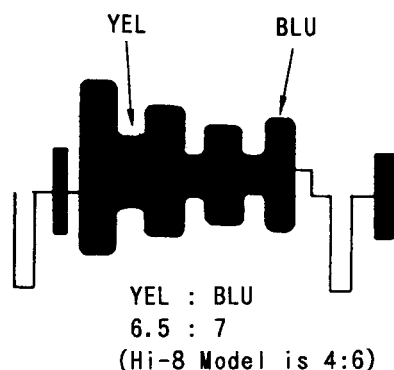

Fig. 2-18-2
(3) Matrix Adjustment (Fig. 2-18-2)